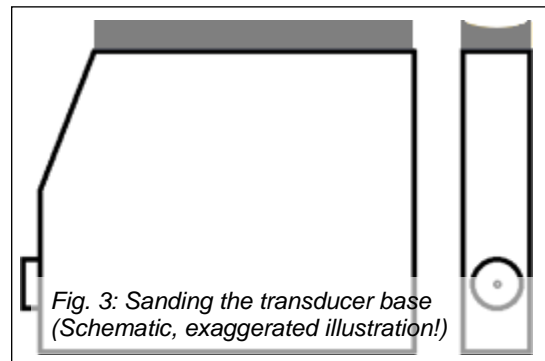

Fig. 3: Sanding the transducer base (Schematic, exaggerated illustration!)
- Before conducting the test, the bottom of the transducer has to be sanded into shape (Fig. 3). This transducer can be used for all Schwing boom cylinder piston rods.